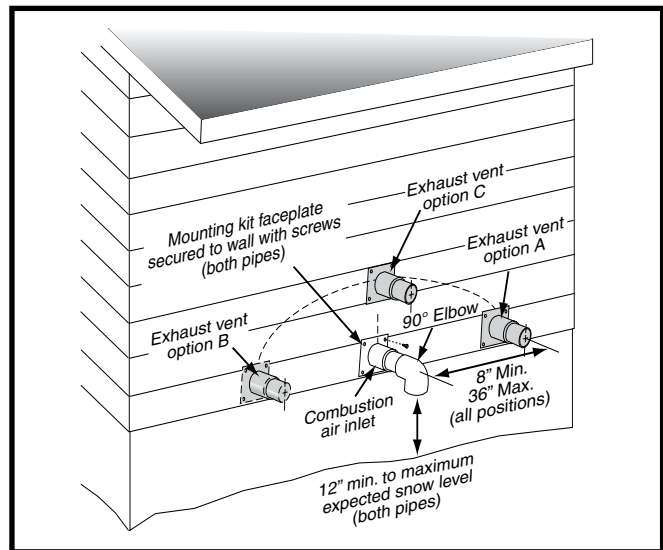
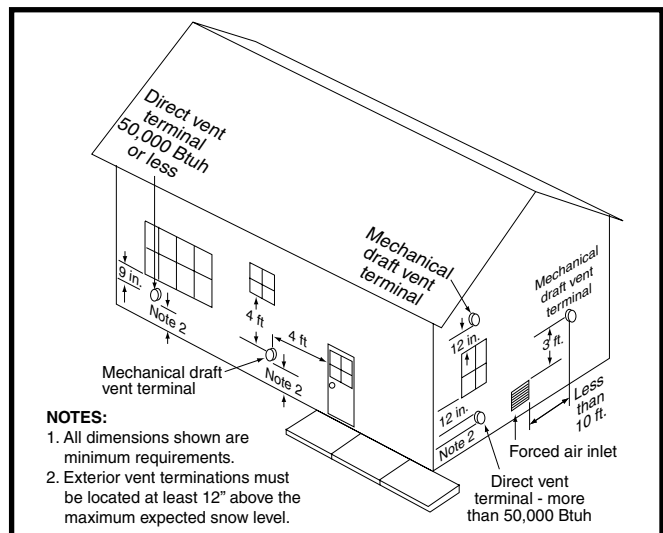
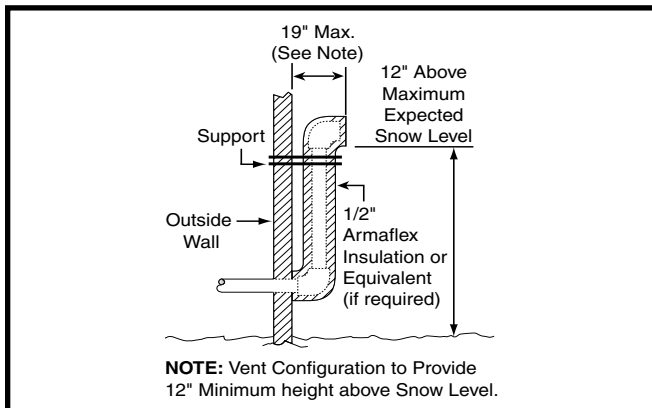

Figure 7. Inlet & Exhaust Pipe Clearances
Figure 8. Vent Locations
Figure 9. Alternate Horizontal Vent Installation
- Vent and combustion air intake terminations shall be installed as shown in Figure 7 & Figure 8 and in accordance with these instructions:
- All minimum clearances must be maintained to protect building materials from degradation by flue gases. See (Figure 8).
- When the vent pipe must exit an exterior wall close to the grade or expected snow level where it is not possible to obtain clearances shown in Figure 7, a riser may be provided as shown in Figure 9. Insulation is required to prevent freezing of this section of pipe. See Table 3 \(page 17\) for vent freezing protection.